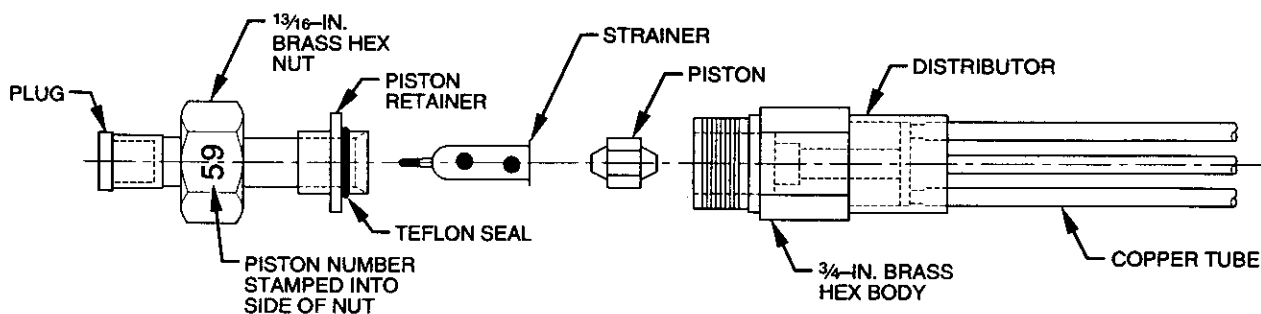

Fig. 2—Metering Device
3. Place coil in ductwork so metering device is on upstream side. (See Fig. 2.) Direction of airflow through coil is plainly marked with adhesive sticker. When access to refrigerant and drain lines is limited, the coil may be installed with air flow opposite the directional sticker.
1. Replace piston if required. Check piston size stamped into side of brass hex nut. (See Fig. 2.) If piston number does not match required piston shown on outdoor unit rating plate, replace indoor piston with piston shipped with outdoor unit.
6. Using small wire, pull out piston from body of metering device. (See Fig. 2.)